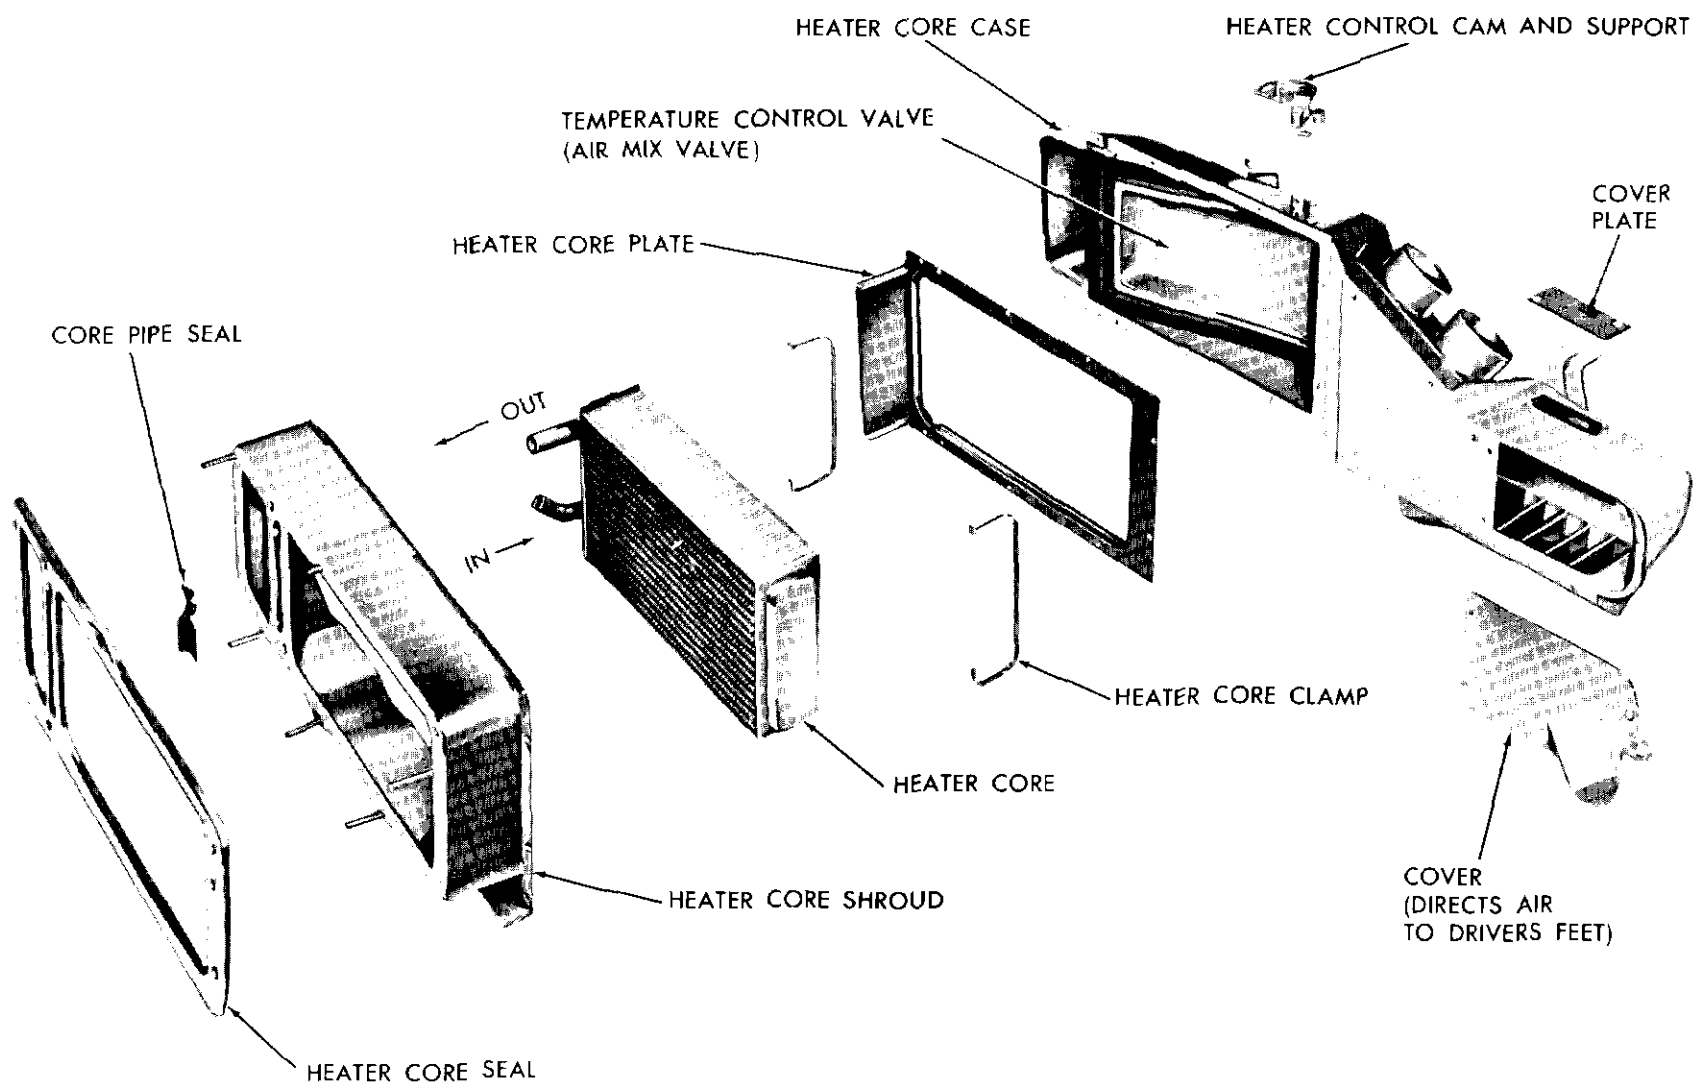

Fig. 2-26 Direct-Aire Heater Core and Case Assembly (With Circ-L-Aire Conditioning)—Exploded View
12. Remove the heater core assembly noting position and location of seals (Fig. 2-26).